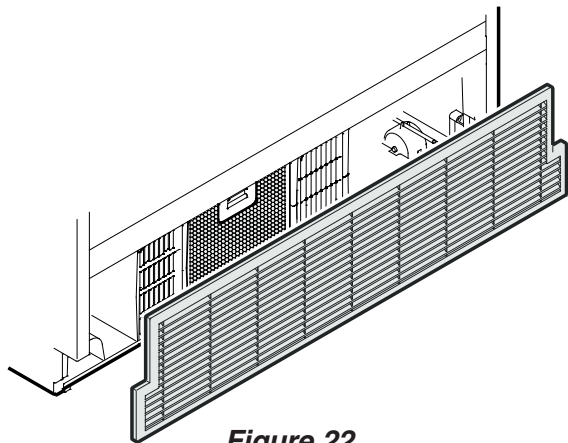

Figure 22
- Open the bottom freezer drawer and unscrew the ventilation grille - **Figure 22**.